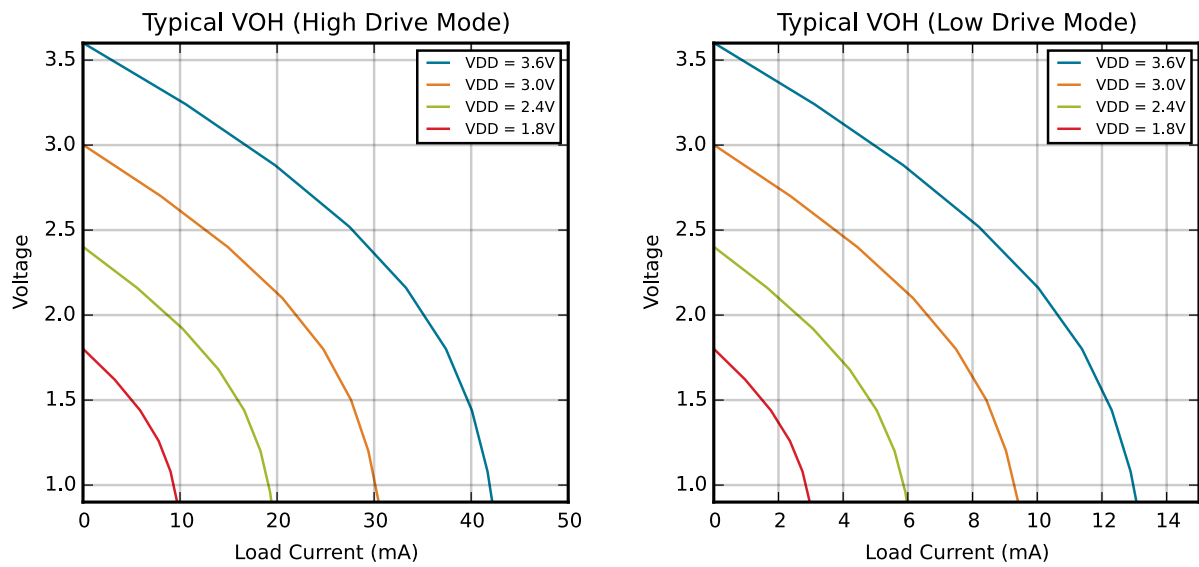
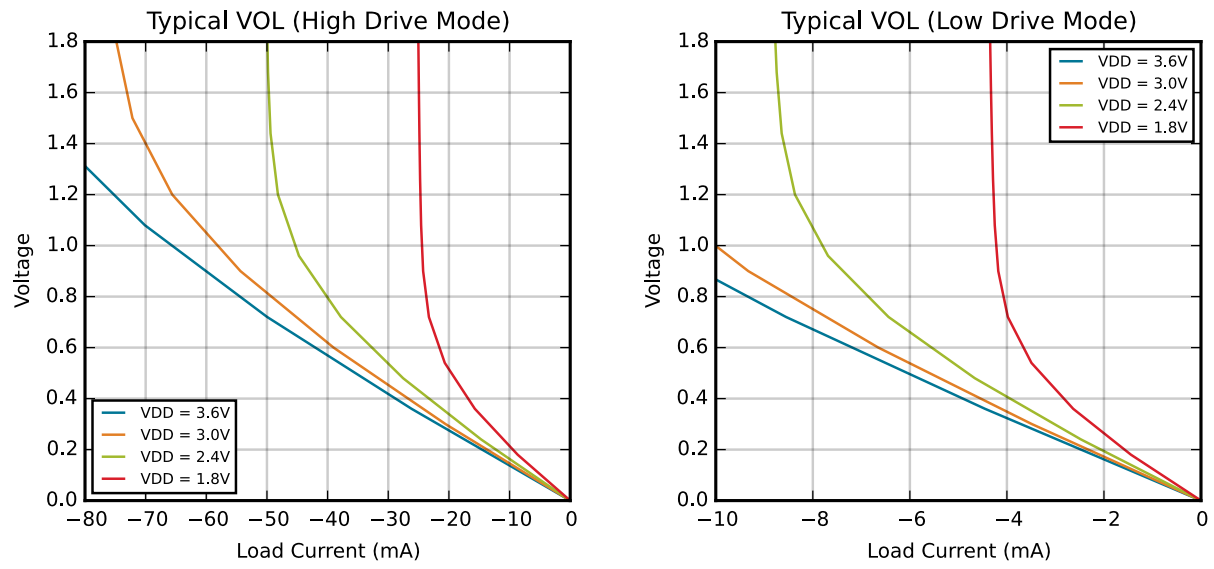

Figure 4.2. Typical V_{OH} Curves
Figure 4.3. Typical VOL Curves
1. See Figure 4.2 Typical V_{OH} Curves on page 24 and Figure 4.3 Typical V_{OL} Curves on page 25 for more information.